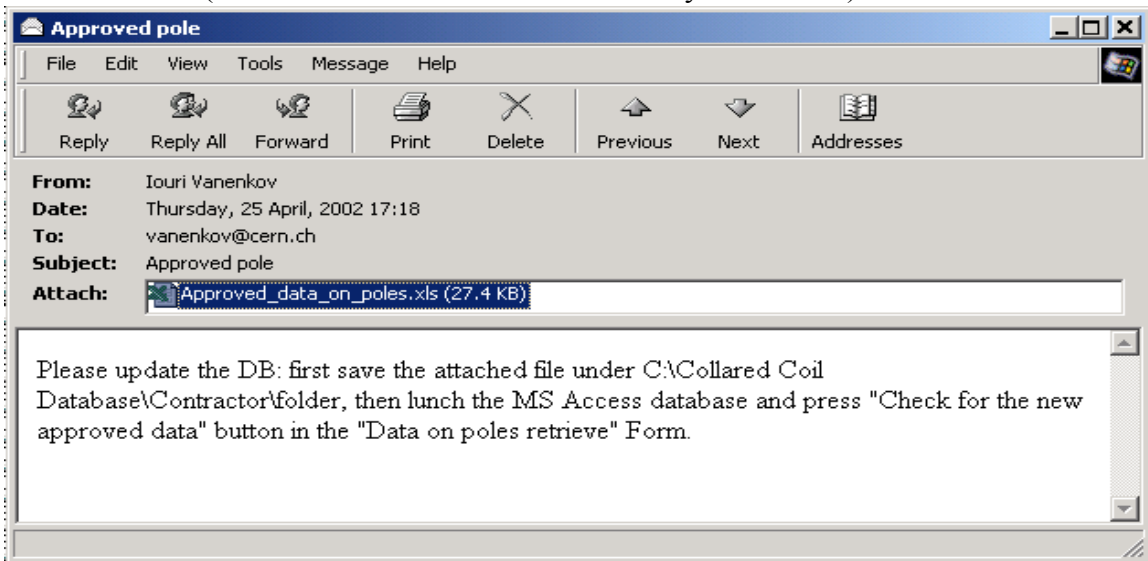

Figure 7
1. The Contractor’s Responsible receives an E-mail with attachment, containing an Excel (*“Approved_data_on_poles.xls”* or *“Rejected data on poles.xls”*) file with the approved or rejected data (figure 7). In order to update the database, Responsible has first to save this file under the C:\Collared Coil Database\Contractor\folder and then import the data into database through the **“Data on poles retrieve”** or **“Rejected poles retrieve”** form (all instructions are written in the body of the mail).